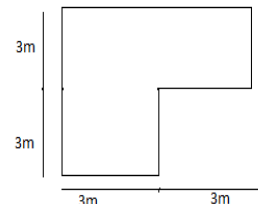

fig 3
24. A UDL ABCDEF having a plan area as shown in **fig 3** is placed on the ground surface. The intensity of load is 20 KN/m². Determine the increase in vertical stress due to the load at 6m depth below the corner points C and D. (4.91 KN/m², 3.112 KN/m²)